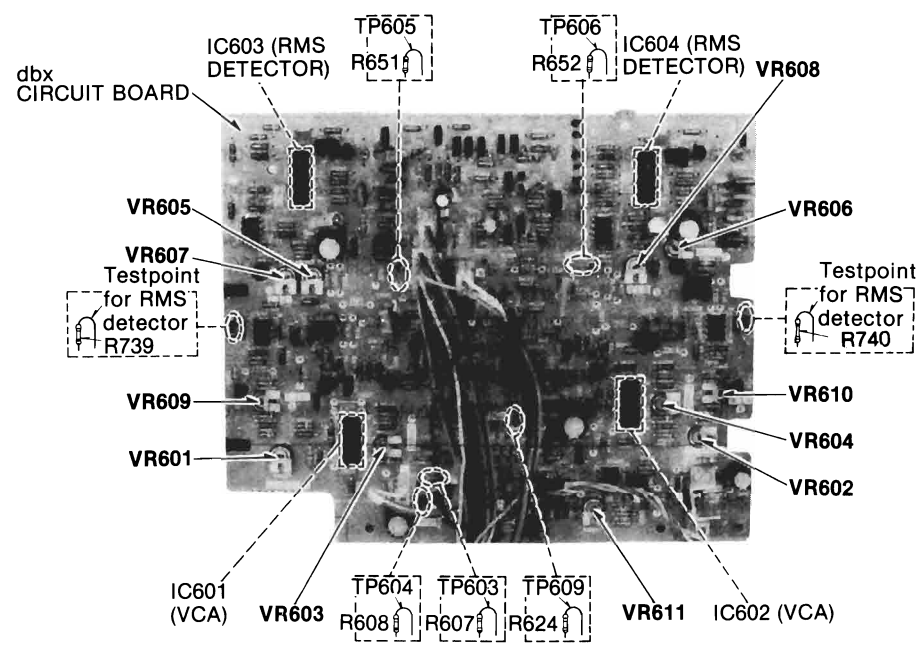
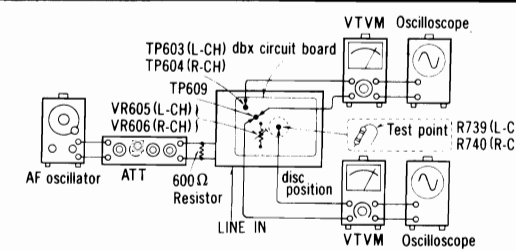
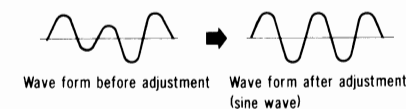

Fig. 2
Fig. 10
Fig. 11
<p>B Head azimuth adjustment</p> <p>Condition:</p> <ul style="list-style-type: none"> <li>* Playback mode</li> </ul> <p>Equipment:</p> <ul style="list-style-type: none"> <li>* VTVM</li> <li>* Oscilloscope</li> <li>* Test tape (azimuth) ... QZZCFM</li> </ul>	<p>L-CH/R-CH output balance adjustment</p> <ol style="list-style-type: none"> <li>Make connections as shown in fig. 2.</li> <li>Playback the 8kHz signal from the test tape (QZZCFM). Adjust screw (B) in fig. 3 for maximum output L-CH and R-CH levels. When the output levels of L-CH and R-CH are not at maximum at the same time, readjust as follows.</li> <li>Turn the screw (B) shown in fig. 3 to find angles A and C (points where peak output levels for left and right channels are obtained). Then, locate the angle B between angles A and C, i.e., a point where L-CH and R-CH output levels come together at maximum (Refer to figs. 3 and 4).</li> </ol> <p>L-CH/R-CH phase adjustment</p> <ol style="list-style-type: none"> <li>Make connections as shown in fig. 5.</li> <li>Playback the 8kHz signal from the test tape (QZZCFM). Adjust screw (B) shown in fig. 3 so that pointers of the two VTVMs swing to maximum and a waveform as illustrated in fig. 6 is obtained on the oscilloscope.</li> </ol> <div style="display: flex; justify-content: space-around;"> <div data-bbox="1016 703 1439 836"> </div> <div data-bbox="1219 844 1288 873"> <p>Fig. 2</p> </div> </div> <div style="display: flex; justify-content: space-around;"> <div data-bbox="1172 880 1351 999"> </div> <div data-bbox="1219 1006 1288 1035"> <p>Fig. 3</p> </div> </div> <div style="display: flex; justify-content: space-around;"> <div data-bbox="1110 1057 1439 1265"> </div> <div data-bbox="1219 1271 1288 1300"> <p>Fig. 4</p> </div> </div> <div style="display: flex; justify-content: space-around;"> <div data-bbox="630 1300 990 1433"> </div> <div data-bbox="780 1433 849 1462"> <p>Fig. 5</p> </div> </div> <div style="display: flex; justify-content: space-around;"> <div data-bbox="1204 1322 1320 1420"> </div> <div data-bbox="1219 1420 1288 1448"> <p>Fig. 6</p> </div> </div>
<p>E Playback gain</p> <p>Condition:                      * Playback mode                      * Tape selector ... Normal position</p> <p>Equipment:                      * VTVM * Oscilloscope                      * Test tape ... QZZCFM</p>	<ol style="list-style-type: none"> <li>1. Test equipment connection is shown in fig. 2.</li> <li>2. Playback standard recording level portion on test tape (QZZCFM 315Hz), and using VTVM measure the output level at LINE OUT.</li> <li>3. Make measurement for both channels.</li> </ol> <div style="border: 1px solid black; padding: 5px; margin: 10px 0;"> <p>Standard value: 0.4V ± 1dB                      [around 0.42V: at test points TP3 (L-CH) and TP4 (R-CH)]</p> </div> <p>Adjustment</p> <ol style="list-style-type: none"> <li>1. If measured value is not within standard, adjust VR1 (L-CH), VR2 (R-CH) (See fig. 1 on page 3).</li> <li>2. After adjustment, check "Playback frequency response" again.</li> </ol>
<p>1 Adjustment of RMS detector</p> <p>Condition:</p> <ul style="list-style-type: none"> <li>• Stop mode</li> <li>• Input level controls ... MAX</li> <li>• Noise reduction selector ... disc</li> </ul> <p>Equipment:</p> <ul style="list-style-type: none"> <li>• VTVM    • AF oscillator</li> <li>• ATT    • Oscilloscope</li> <li>• Resistor (600Ω)</li> </ul>	<ol style="list-style-type: none"> <li>1. Make the connections as shown in fig. 10, and set the noise reduction selector to disc position.</li> <li>2. Apply 50 Hz -27 dB signal from LINE IN.</li> <li>3. Adjust ATT so that the signal level at TP603 (L-CH) and TP604 (R-CH) becomes 300 mV.</li> <li>4. Make sure that the output signal at R739 (L-CH) and R740 (R-CH) (Shown in fig. 2) is at 100 Hz sine wave. If the output signal is not sinusoidal as shown in fig. 11, adjust VR605 (L-CH) and VR606 (R-CH) to make it sinusoidal.</li> </ol> <p>NOTE: The voltage of the output signal after adjustment is about 0.8 to 1.1 mVrms.</p>